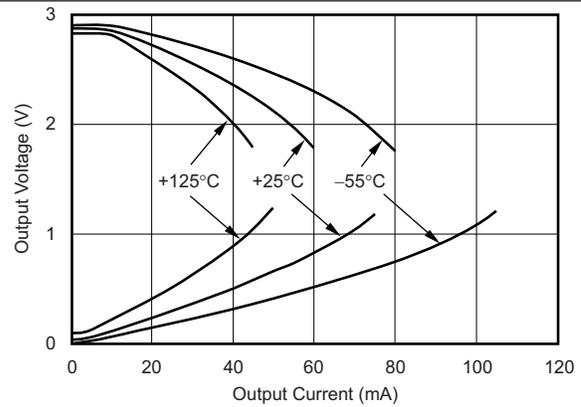
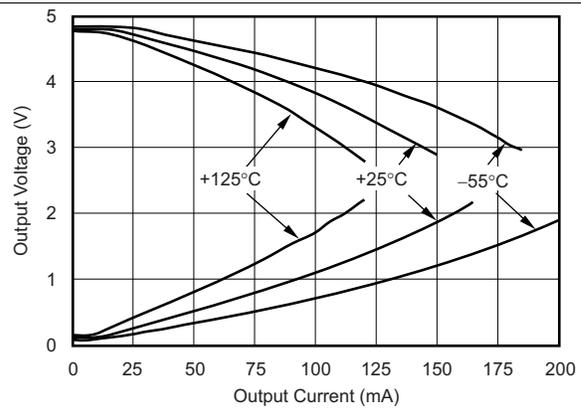

Figure 20. Output Voltage Swing vs Output Current for $V_S = 3\text{ V}$
Figure 22. Output Voltage Swing vs Output Current for $V_S = 5\text{ V}$
(1) See typical characteristic curves, *Output Voltage Swing vs Output Current* (Figure 20 and Figure 22).
(2) Specified by design.
A class AB output stage with common-source transistors is used to achieve rail-to-rail output. For high-impedance loads ($> 200 \Omega$), the output voltage swing is typically 100 mV from the supply rails. With 10- Ω loads, a useful output swing can be achieved while maintaining high open-loop gain. See the typical characteristic curves, Output Voltage Swing vs Output Current (Figure 20 and Figure 22).
The OPA354 output stage can supply a continuous output current of ± 100 mA and yet provide approximately 2.7 V of output swing on a 5-V supply, as shown in Figure 30. For maximum reliability, TI does not recommend running a continuous DC current in excess of ± 100 mA. Refer to the typical characteristic curves, Output Voltage Swing vs Output Current (Figure 20 and Figure 22). For supplying continuous output currents greater than ± 100 mA, the OPA354 may be operated in parallel, as shown in Figure 31.